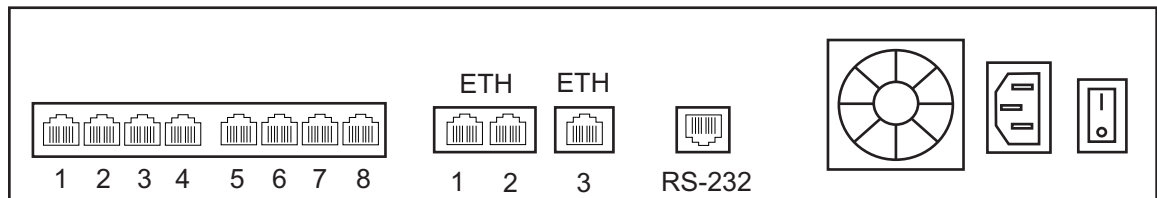

Figure 2.7
1. Start with port 1 located at the top and left-most position. Connect one cable between this port and the T1/E1/J1 line (Figure 2.7 on page 15).